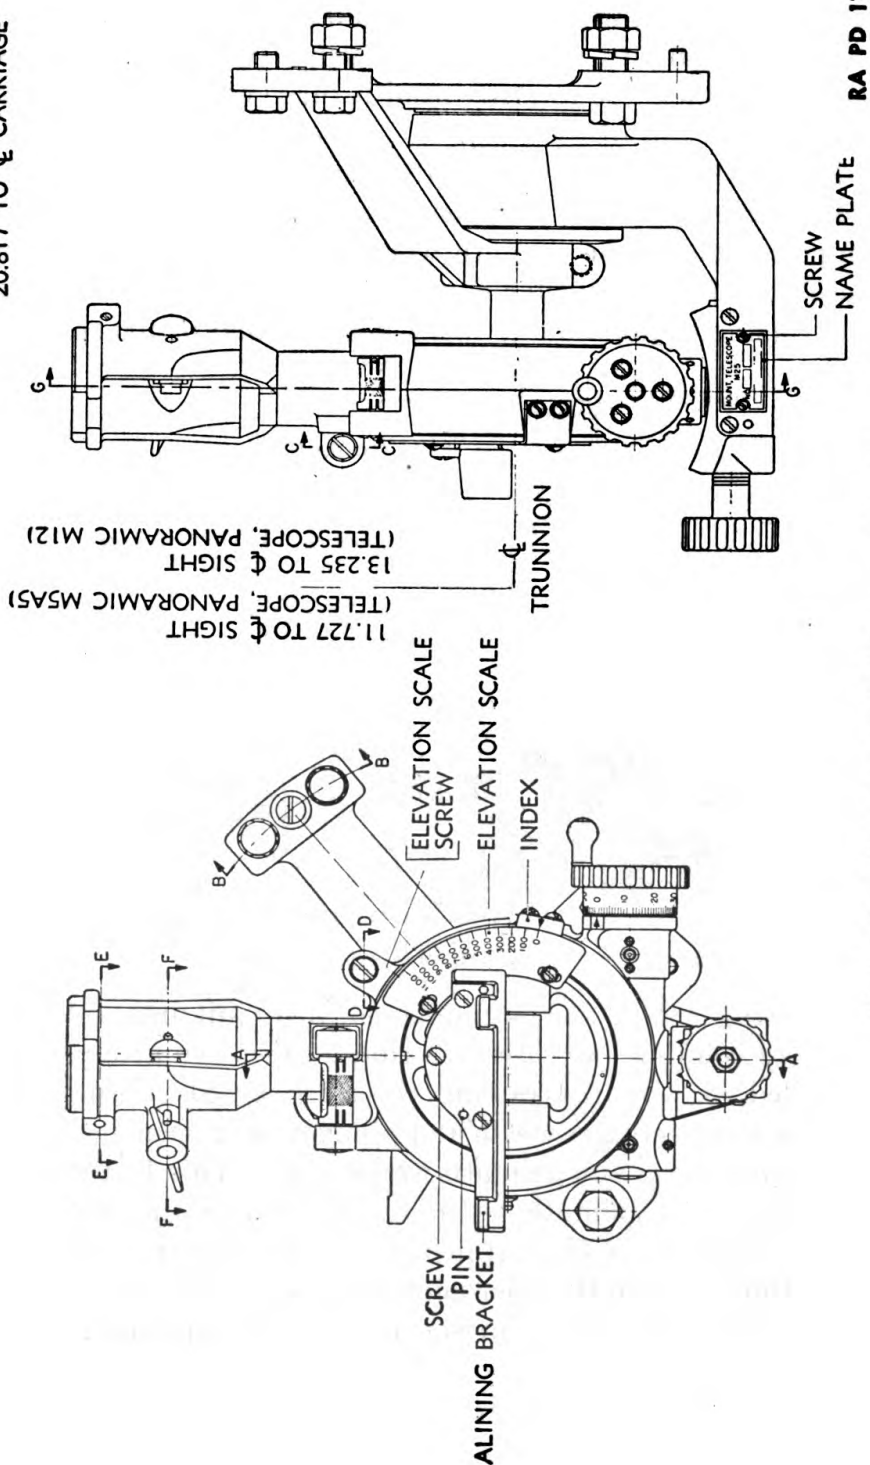

FIGURE 3.—Telescope mount M25— assembled views.
d. The telescope socket is pinned to the upper part of the telescope mount body assembly (fig. 1). This socket has accurately machined surfaces for locating the panoramic telescope. The telescope retaining shaft with torsion spring, located on the upper part of the socket, holds the telescope in position. Two tangent adjusting screws with locking screw make possible a small lateral adjustment for the telescope. In the lower part of the socket is a cylindrical hole for the collar of the panoramic telescope. Figures 3, 4, and 5 are assembled and sectioned views of the telescope mount.